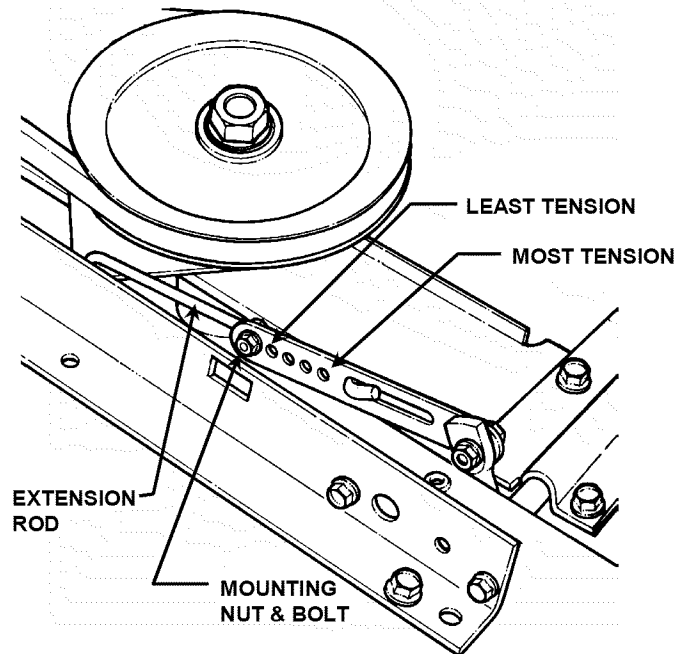

FIGURE 4.4
8. (33" Deck) To adjust tension, remove extension rod mounting bolt and nut. See Figure 4.4.